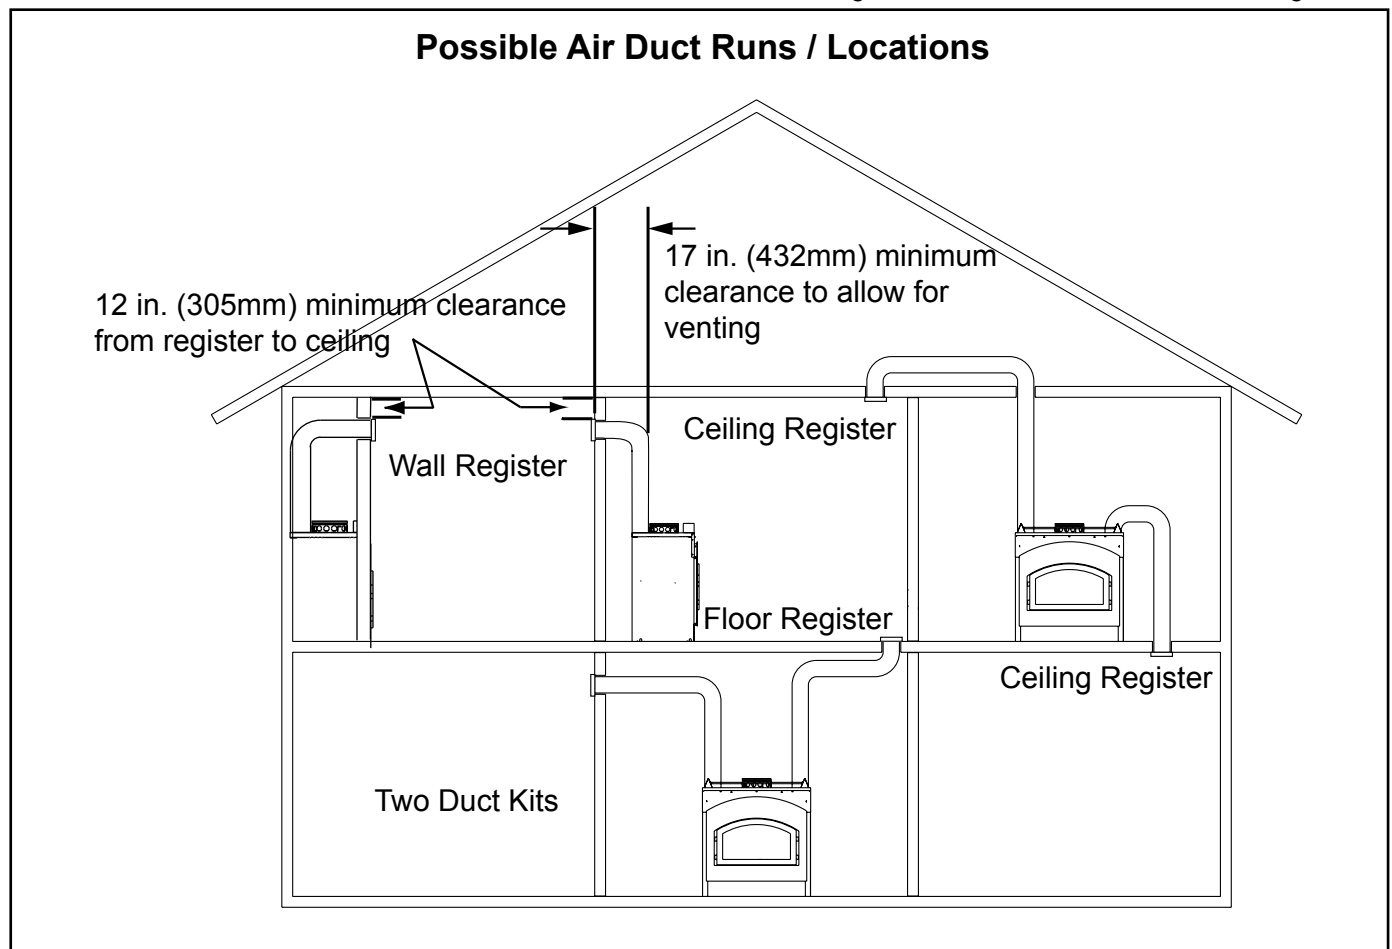

Figure 1
The Heat-Zone® wood accessory kit conveys warm air from the fireplace through air duct(s) to remote locations in the same room or other rooms of the building. See Figure 1. One or two Heat-Zone kits can be installed on the fireplace.
*(See Figure 1 on page 1).